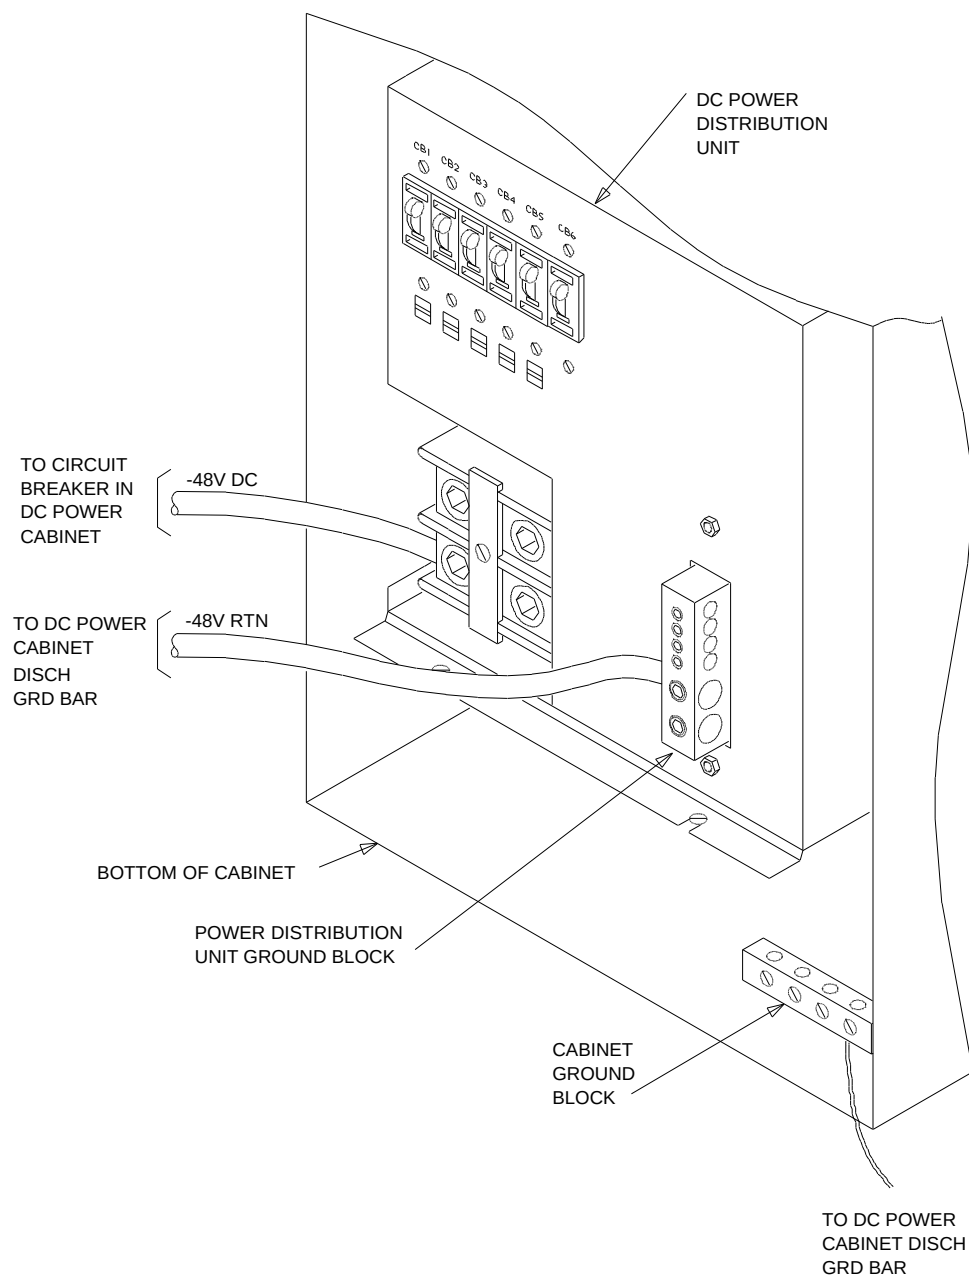

Figure 4-12. Power and Ground Connections for a DC-Powered Multi-Carrier Cabinet
- Using a 3/8-inch allen wrench, connect the -48 volt DC lead as shown in Figure 4-12.
- Using a 3/16-inch allen wrench, connect the -48 volt RTN lead as shown in Figure 4-12.